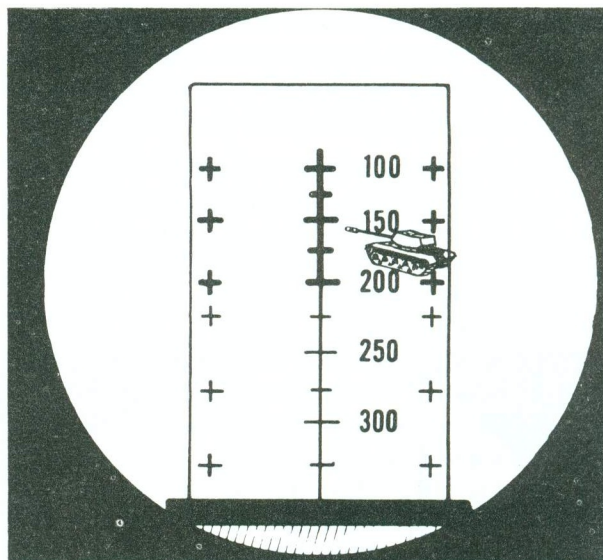
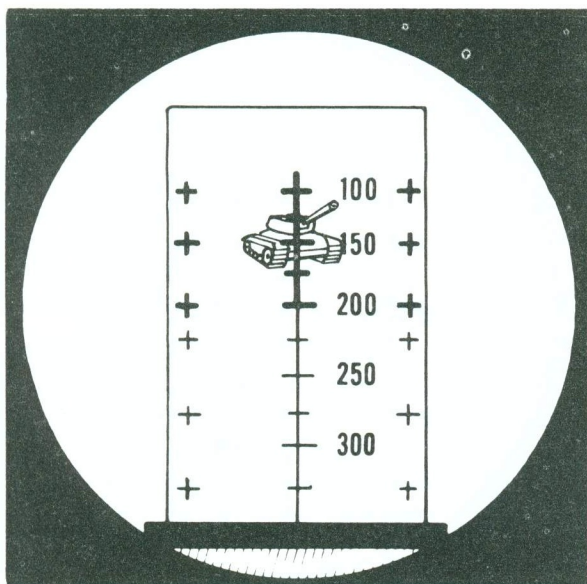

Figure 19. Target moving at an angle away from gunner, 175 meters, 20 miles per hour, at an angle of  $45^\circ$  or more (more side than end showing).
Figure 18. Target moving toward gunner, 150 meters, at an angle of  $45^\circ$  or less (more front than side visible).
- (4) *Targets moving at an angle toward or away from the gunner.* When the target is moving toward the gunner at an angle where more of the front of the target is visible than the side ( $0^{\circ}$ – $45^{\circ}$ ) the gunner should estimate the range to the target and place that range on the target's center of mass (fig. 18). If the target is moving at an angle where there is more of the side visible than front ( $45^{\circ}$ – $90^{\circ}$ ) the gunner would estimate the range, estimate the speed it appears to be moving, and apply one-half the lead to the center of mass (fig. 19).